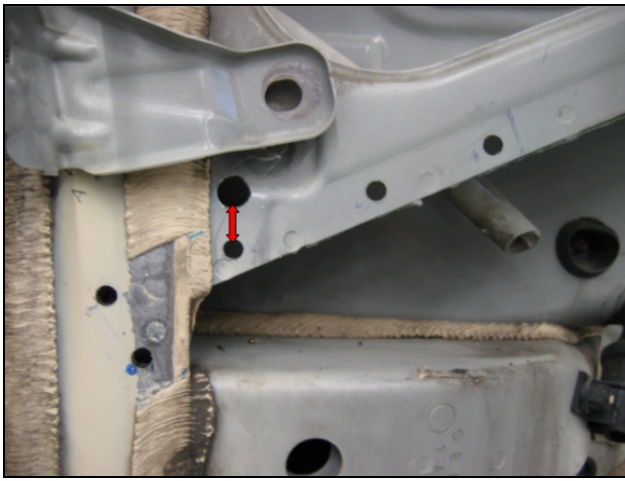

Figure 5
9. Using the metal plate as a template, make sure that the second rivet hole is positioned under the drilled water drain (Figure 5). Remove seam sealer in the area of the reinforcement plate, mark and drill five 6.5mm holes (Figure 5).